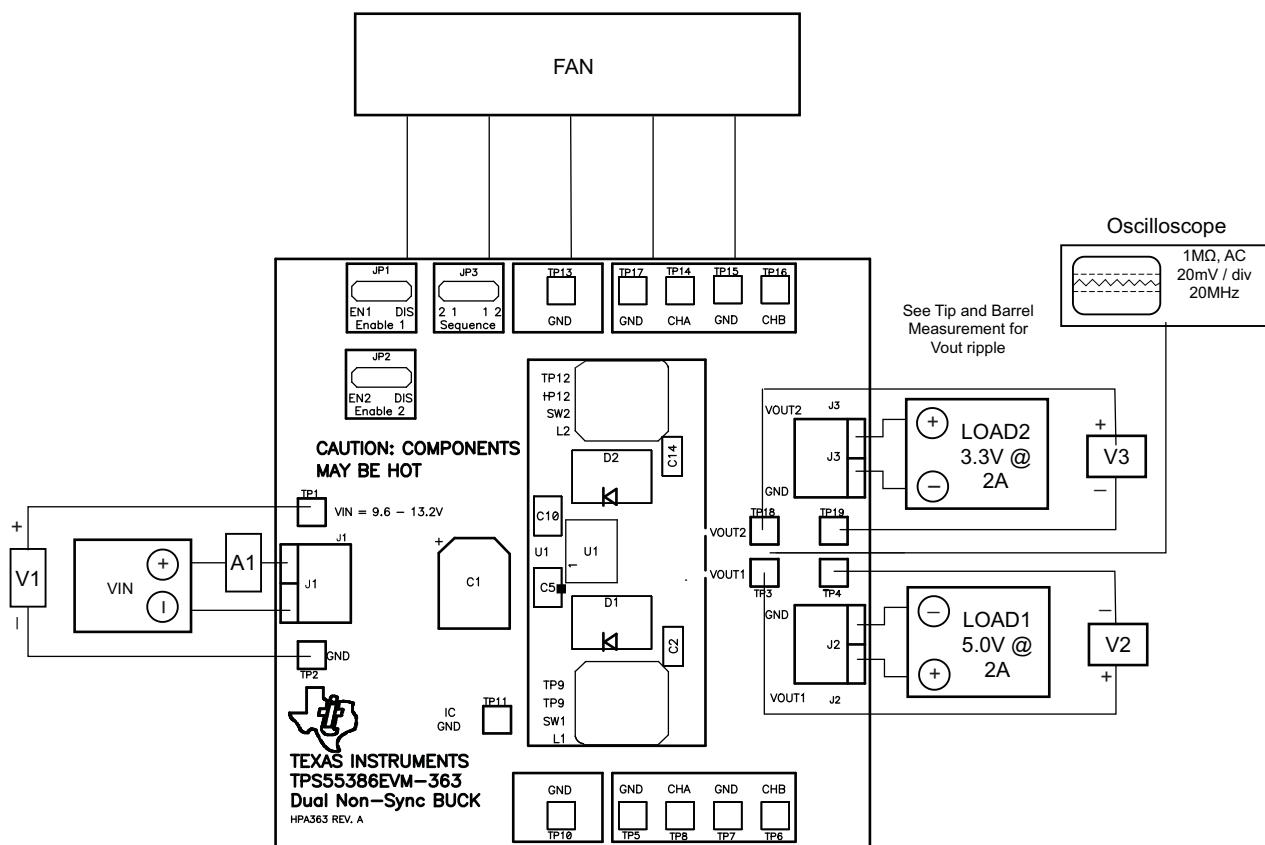

Figure 2. TPS55386EVM-363 Recommended Test Set-Up
Shown in Figure 2 is the basic test set up recommended to evaluate the TPS55386EVM-363. Note that although the return for J1, J2 and JP3 are the same system ground, the connections should remain separate as shown in Figure 2.
2. Prior to connecting the DC input source, V_{IN} , it is advisable to limit the source current from V_{IN} to 5.0A maximum. Make sure V_{IN} is initially set to 0V and connected as shown in Figure 2.
3. Connect the ammeter A1 (0-5A range) between V_{IN} and J1 as shown in Figure 2.
4. Connect voltmeter V1 to TP1 and TP2 as shown in Figure 2.
5. Connect LOAD1 to J2 as shown in Figure 2. Set LOAD1 to constant current mode to sink 0Adc before V_{IN} is applied.
6. Connect voltmeter, V2 across TP3 and TP4 as shown in Figure 2.
7. Connect LOAD2 to J3 as shown in Figure 2. Set LOAD2 to constant current mode to sink 0Adc before V_{IN} is applied.
8. Connect voltmeter, V3 across TP18 and TP19 as shown in Figure 2.